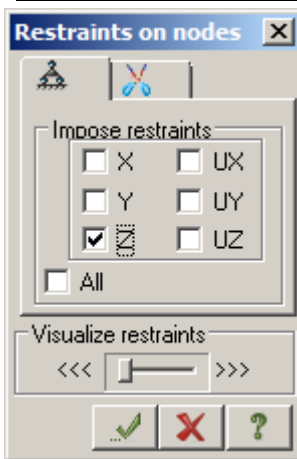

Figure 2.6 Restraints on nodes dialog box
- ⇒ In the **Restraints on nodes** dialog box (see Fig.2.6), specify directions along which displacements of nodes are not allowed (Z). To do this, select appropriate check boxes.